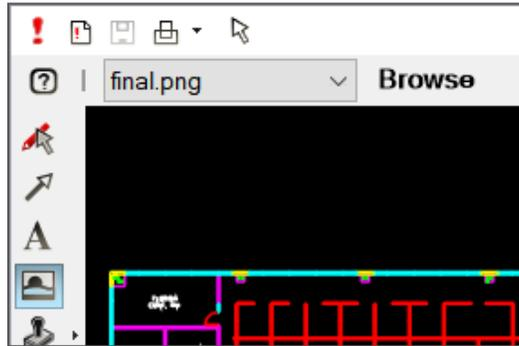

Figure 27.1 Default Image File Selection
- a) If you have configured your profile with an image file (.png, .jpg) located on your PC, ProjectDox will show this image file as a default in the gray bar (**final.png**) in Figure 27.1.